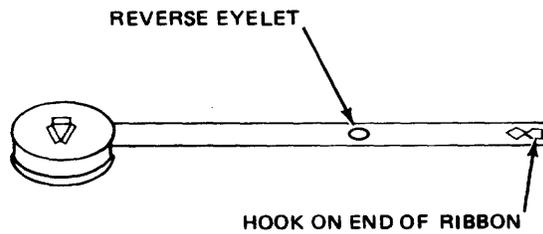

Figure 6-47. Printer Ribbon with Spool.
e. Engage hook at end of new ribbon to hub of empty spool (see figure 6-47).